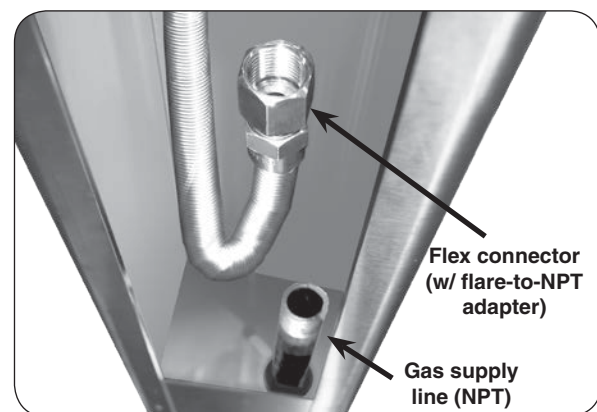

Fig. 19-2 Post interior detail
2. Verify that the gas supply line fits through the gas line clearance hole in the bottom of the post (see Fig. 19-2). The clearance hole is the larger of the two holes in the bottom of the post and is off center.